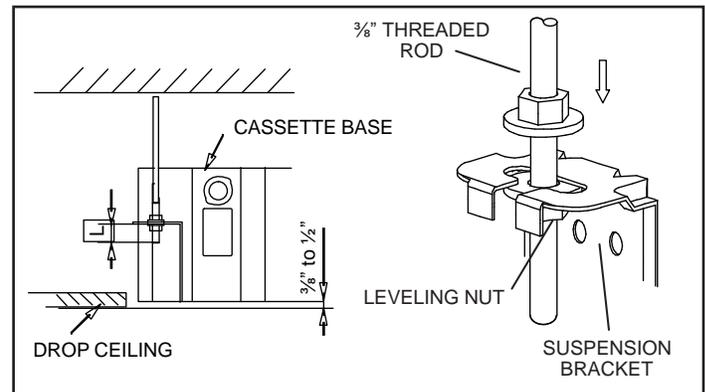

Figure 2. Suspension Hardware
5. Slide one nut and one washer onto each threaded rod. Use electrical tape to keep the washer from falling off. Position the nuts slightly above the final resting place of the four suspension brackets. See figure 2.